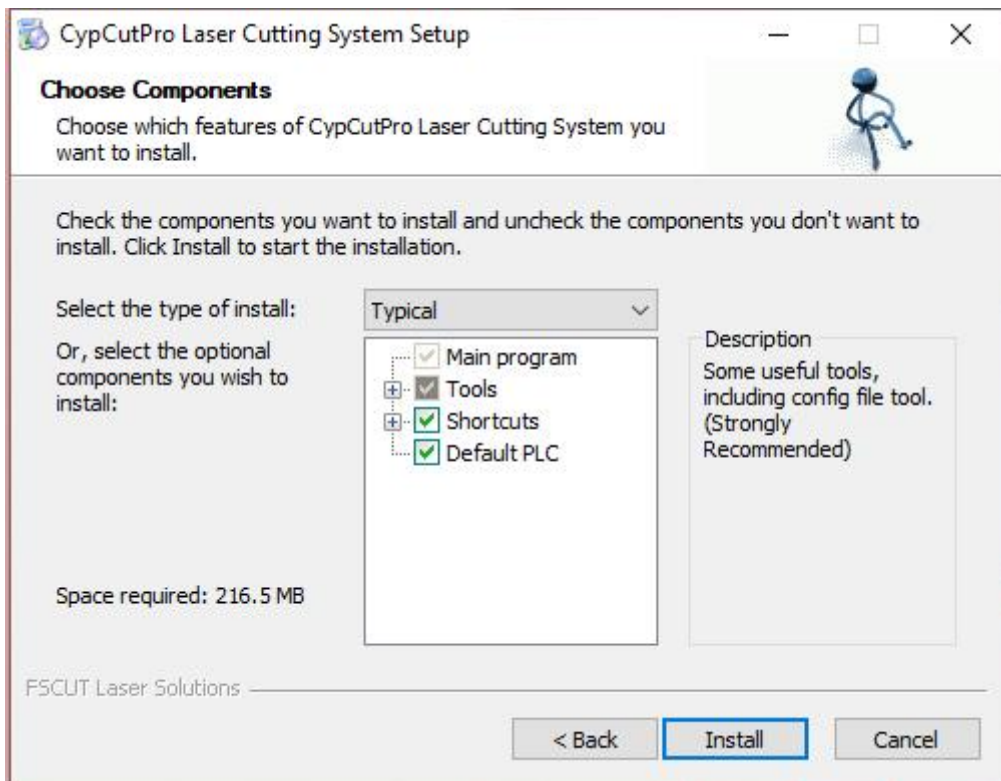

Figure 7 Check Driver Program
1. Use CypCutE to install the driver, check the driver when installing CypCutE, as shown in Figure 7. The BMC228X driver will be automatically installed.